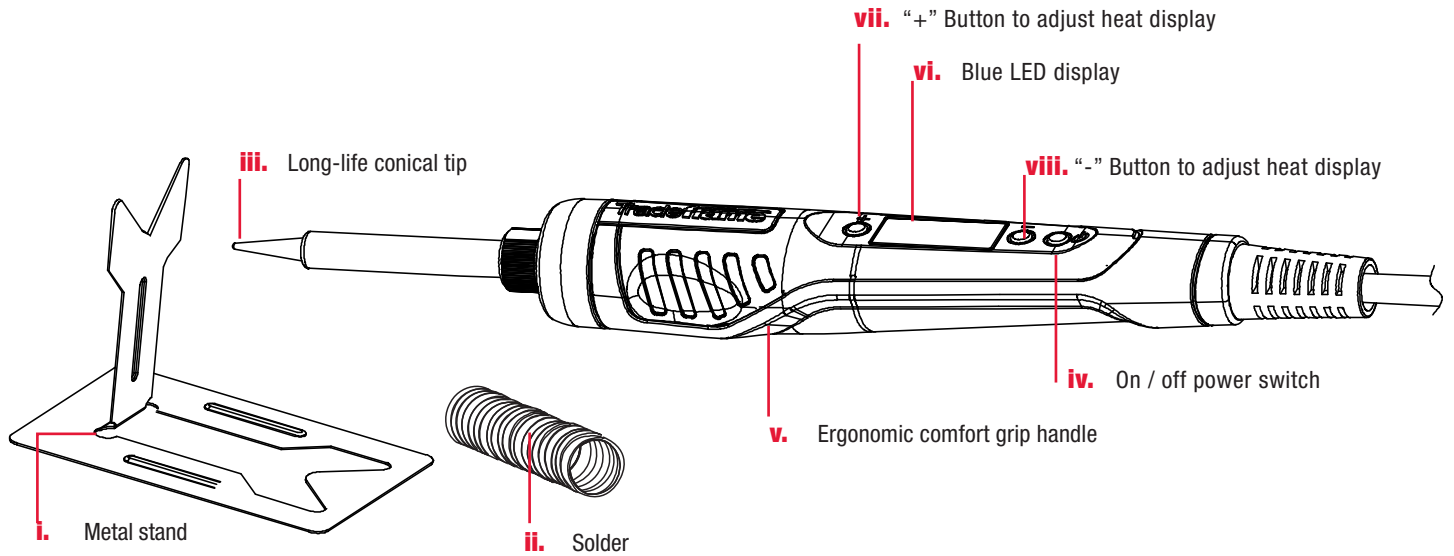
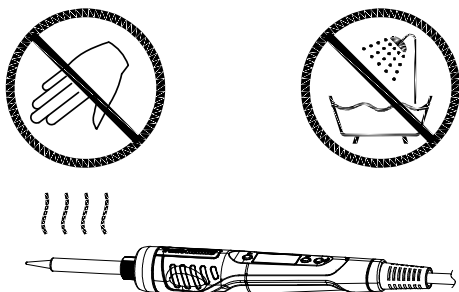

Fig. 1
Fig. 4 - WARNING - hot tip when in use, do not touch, keep Soldering Iron clean and away from oils and lubricants. Do not immerse Soldering Iron in water
- Indoor use. Do not expose Soldering Iron to rain or wet conditions. Water entering a Soldering Iron will increase the risk of electric shock (Fig. 4)
- Keep handles and grasping surfaces dry, clean and free from oil and grease. (Fig. 4) Slippery handles and grasping surfaces do not allow for safe handling and control of the Soldering Iron in unexpected situations.
- Keep hands clear of the tip serious burns can occur if skin contacts tip (Fig. 4)
- To reduce the risk of fire, personal injury, and product damage due to a short circuit, never immerse your Soldering Iron, battery pack or charger in fluid or allow a fluid to flow inside them. Corrosive or conductive fluids, such as seawater, certain industrial chemicals, and bleach or bleach-containing products, etc., can cause a short circuit. (Fig. 4)
- To reduce the risk of injury, always wear safety goggles or glasses with side shields. Keep hands and fingers behind finger guard (Fig.1 / vii). Serious burns could occur if skin contacts a hot tip.(Fig. 4)
4. Turn the Soldering Iron on by pressing the ON/OFF button for 2 seconds. (Fig. 1 / iv)
6. LED display will flash until the target temperature is reached. (Fig. 1 / vi)
12. To turn off the Soldering Iron, press the ON/OFF button for 2 seconds (Fig. 1 / iv).
1. To set a temperature other than the default temperature, simply press the "+" button to increase (Fig. 1 / vii), or the "-" button to decrease to reach your target temperature. (Fig. 1 / viii)
7. To enter calibration mode, press the ON/OFF button and the "+" button simultaneously. (Fig. 1 / iv & vii),
8. Use the "+" or "-" buttons to adjust display to be the same as the temperature sensor reading. (Fig. 1 / vii & viii)
9. Press the ON/OFF button to save the calibration. (Fig. 1 / iv)